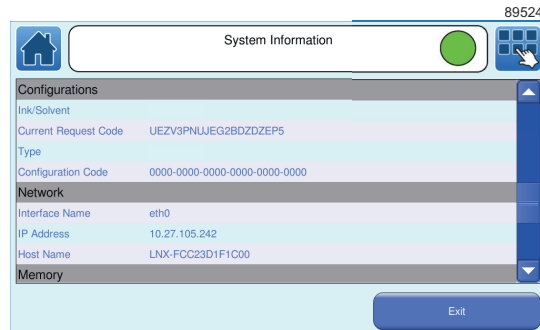

Figure 11. System Information (Configurations) screen
- 2 Scroll to display the **Configurations** section (see Figure 11).